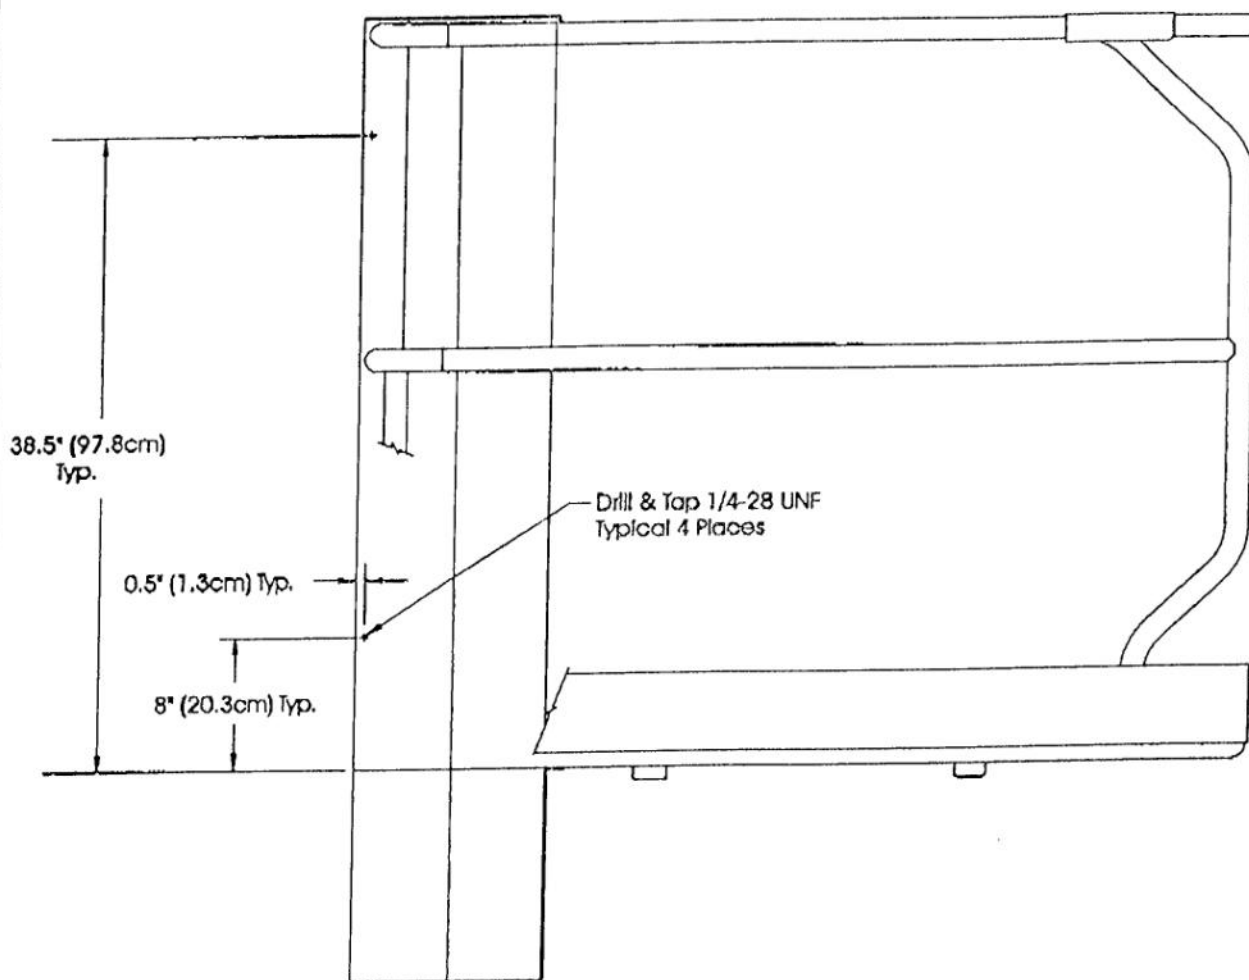

Figure 1
PROCEDURE: Read all instructions thoroughly and refer to figure 1 before starting.
1. Mark and drill, per figure 1, two (2) holes on each side of the mast.
1. Using the supplied parts (1 each #065373-001 Switch Sensor, 7 each #065519-000 Switch Pads, 1 each #065357-000 Switch Plate, 1 each #013919-002 Hose Clamp, 4 each #00000-000 Screws, and 1 each #011249-003 Nut, assemble the Switch Plate assembly as shown in figure 1.
CAUTION: Pay particular attention to the positioning of the Cable Clamps. Position exactly as shown in figure 1, detail C, avoid looping and allowance of excess wire in steps 6 and 7.
CAUTION: Pay particular attention to the positioning of the Cable Clamps. Position exactly as shown in figure 1, detail C.